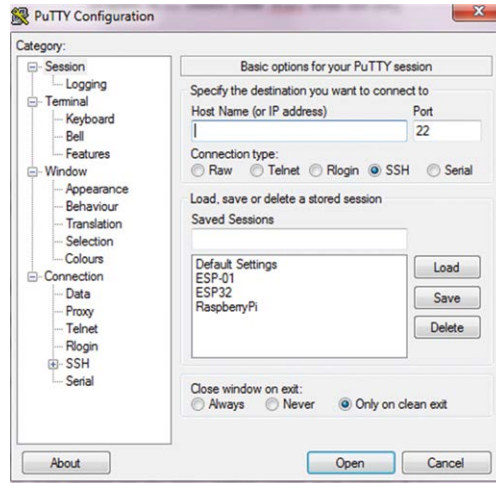

Figure 2.8 Putty startup screen
- Putty is a standalone program and there is no need to install it. Simply double click to run it. You should see the Putty startup screen as in Figure 2.8.